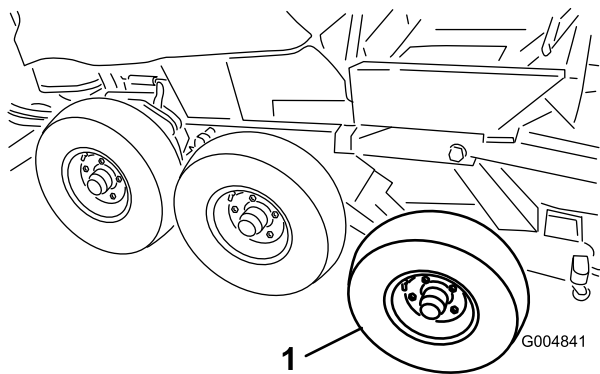

Figure 29
19. Remove the front and center tires from the winter assembly (Figure 29).